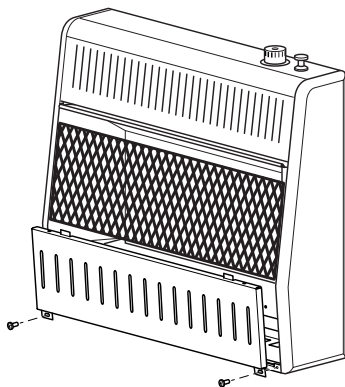

Figure 6 - Removing Front Panel Of Heater
2. Pull bottom of lower front panel forward, then down (see Figure 6).